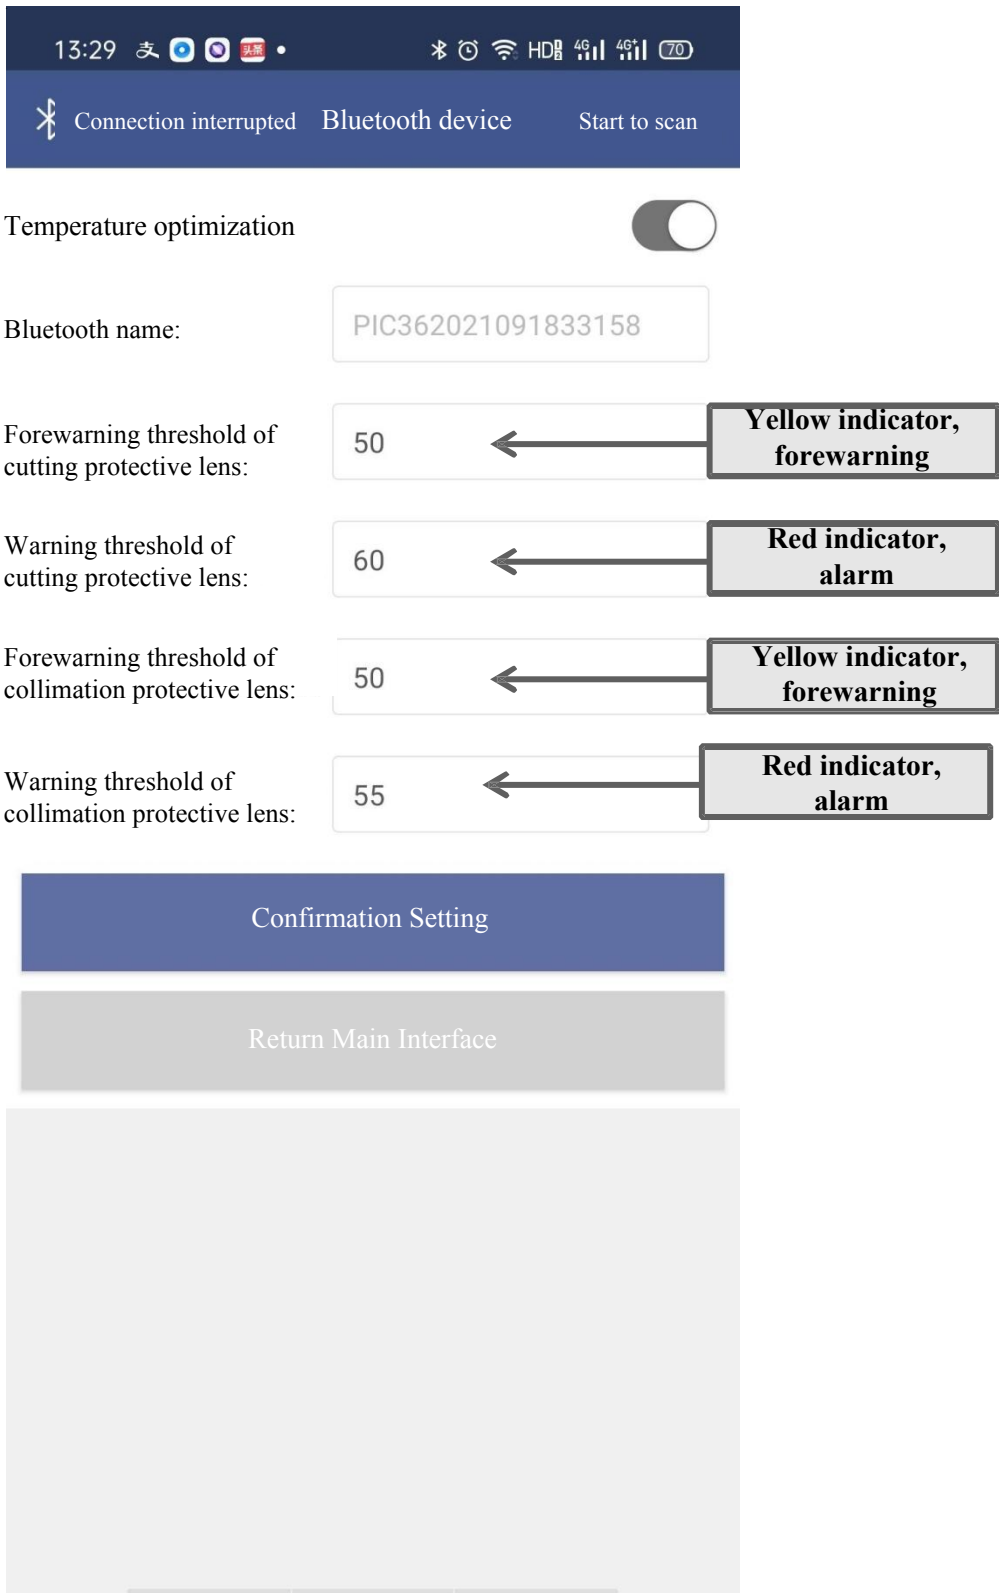

Figure 3.3
② Enter temperature settings interface to set the temperature according to the actual conditions. The forewarning value must be lower than the alarm value. After settings, click "Confirm", as shown in Figure 3.3: